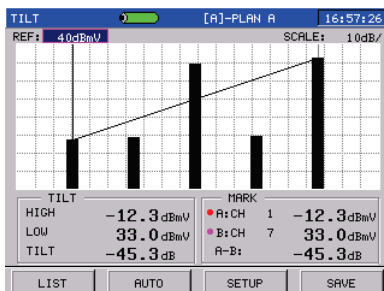

Figure 3-10-7
**REFERENCE LEVEL:** Turn the knob to select the REF parameter, then press the knob, a purple frame will appear, as Figure 3-10-7. You can input the reference level using the character/digit keys, or turn the knob or press   to adjust the reference level, press the knob to confirm.